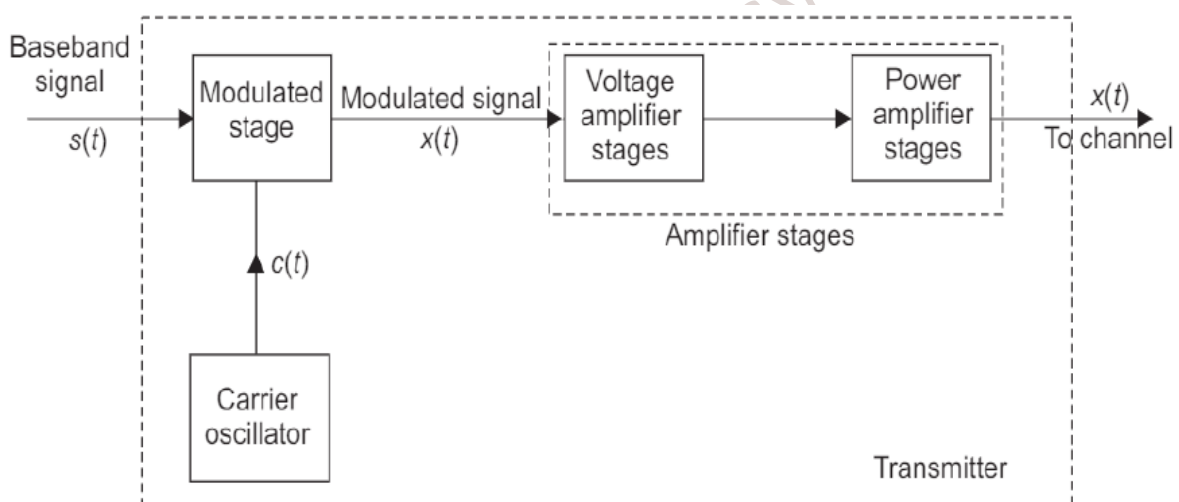

Fig. 4.5 Block diagram representing schematic of an analog transmitter section
- Figure 4.5 shows the baseband signal, $s(t)$ applied to the modulated stage. This stage translates the baseband signal from its low frequency spectrum to high frequency spectrum. This stage also receives another input called the *carrier signal*, $c(t)$, which is generated by a high frequency carrier oscillator.
- The output of the modulated stage is called the *modulated signal*, and is designated as $x(t)$. The voltage of the modulated signal is then amplified to drive the last stage of the transmitter, called the *power amplifier stage* (Fig. 4.5).
- The radio waves have a wide frequency range starting from a few ten kilo Hertz (Hz) to several thousand Mega Hertz (MHz). This wide range of frequencies is referred as the *radio frequency (RF) spectrum*.